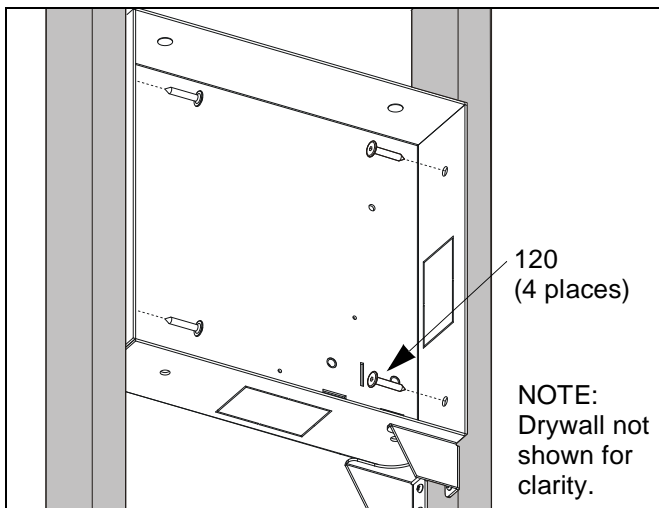

Figure 4: Option 1 - Secure Housing
- Option 1 (with bracket (130)): Using key (240) or bit (230) install 4 bolts (120) through sides of housing (10) into studs (See Figure 4). Tighten securely.